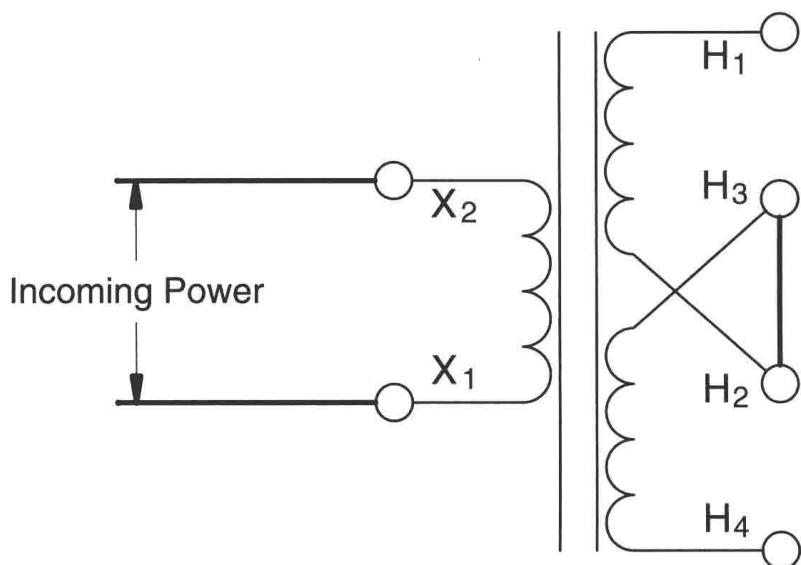

Figure 19-11 The incoming power is connected to terminals X₁ and X₂.
14. Connect the transformer as shown in Figure 19-11. Make certain that the voltage applied to terminals X₁ and X₂ is 120 volts and not 208 volts. Also make certain that the AC voltmeter is set for a higher range than the computed value of voltage in step 13.